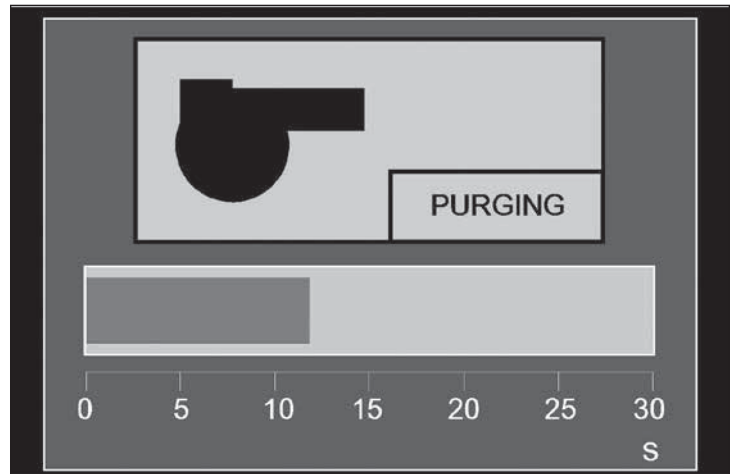

Figure 25
- Purging – Removes any vapor or fumes from the combustion chamber. See Figure 25.